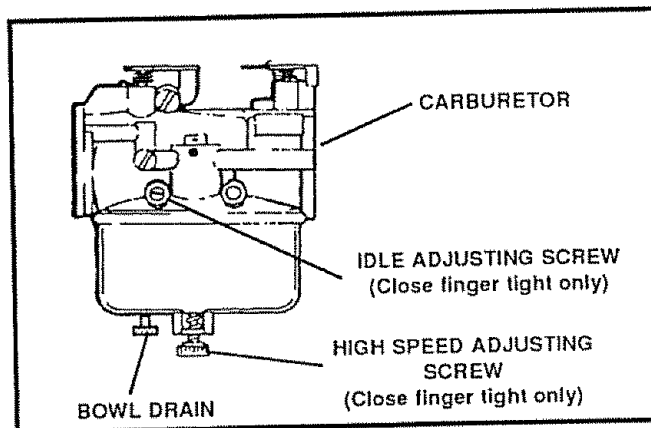
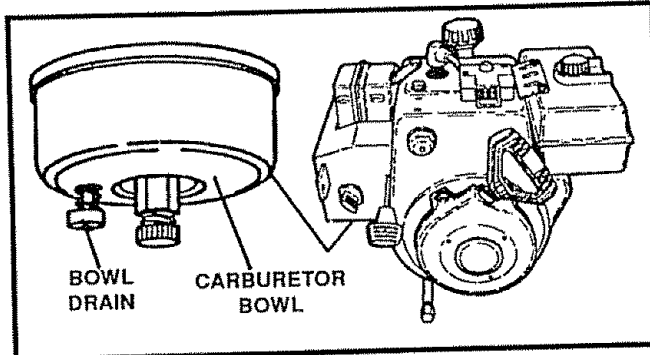

FIG. 35
FIG. 37
The carburetor (See Fig. 35 and Fig. 37 (page 24)) has been pre-set at the factory and readjustment should not be necessary. However, if the carburetor does need to be adjusted, proceed as follows:
- To remove gasoline, run the engine until the tank is empty and the engine stops. Then drain remaining gasoline from carburetor by pressing upward on bowl drain located on the bottom of carburetor (See Fig. 37).